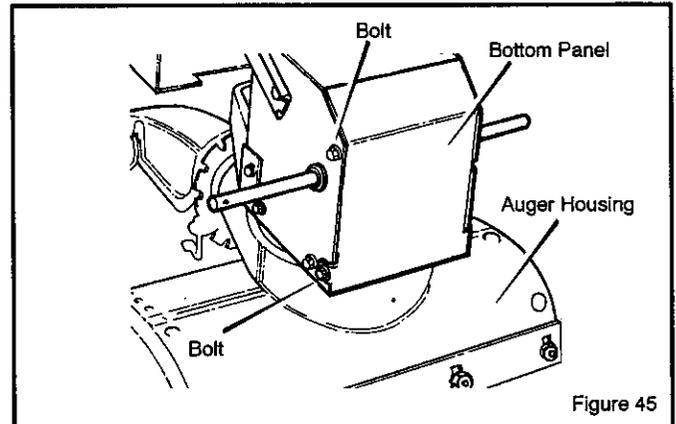

Figure 45
1. Remove the gas from the gas tank. Stand the snow thrower up on the front end of the **auger housing** (see Figure 45).
3. Loosen the **bolts** on each side of the **bottom panel** (see Figure 45).
6. Install the **bottom panel** (see Figure 45).
1. Remove the gas from the gas tank. Stand the snow thrower up on the front end of the **auger housing (4)**. (see Figure 45).